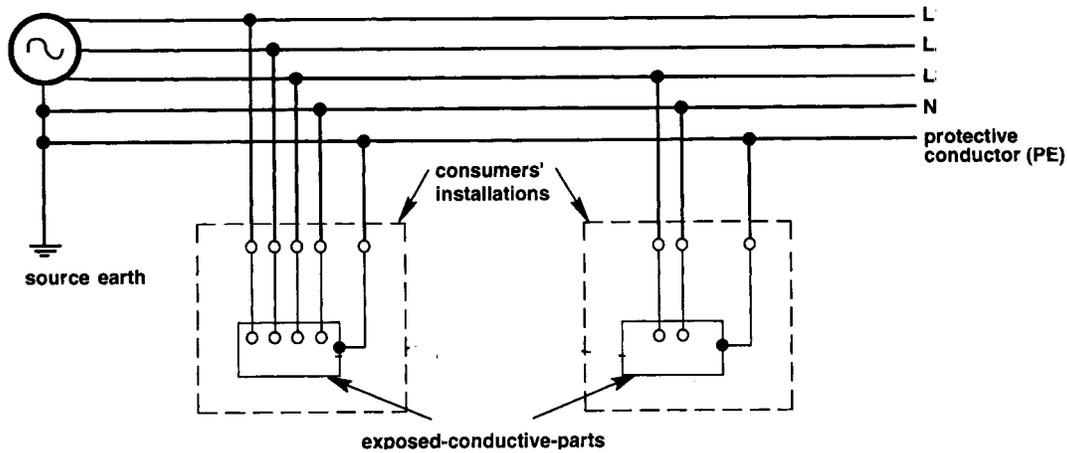

Figure A-2 – TN-S system
**TN-S system:** One pole of the supply system is connected to one or more electrodes buried in the ground. This pole is connected to the neutral conductor of the distribution cables, and also connected to a protective conductor in the distribution cables, which is used to 'earth' exposed conductive parts of a load installation. The neutral and protective conductors are insulated from each other in the distribution network and in load installations. (Figure A-2)